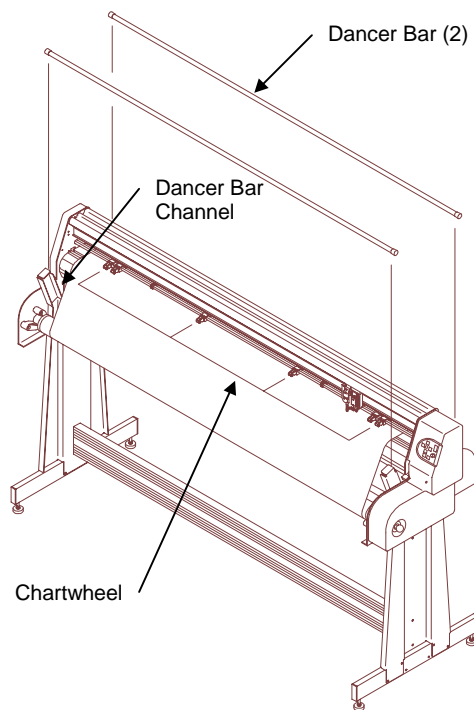

Figure 17. Installing the Dancer Bars
16. The two remaining chartwheels should be evenly spaced along the width of the paper. Slide the two inner chartwheels to positions that result in an even spacing (See Figure 17).